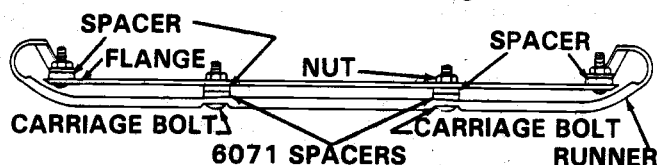

FIGURE 15
1. To pre-set the runners prior to a test cutting they may be adjusted as shown in Figure 15.
1. Raise the tractor hood. Remove screws, "A", Figure 15, and lift off complete air cleaner assembly.